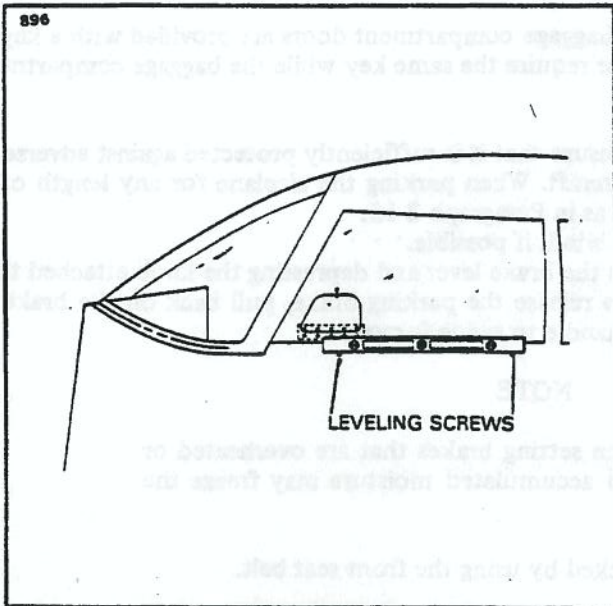

Figure 2-6. Leveling Longitudinally
- a. To longitudinally level the airplane, partially withdraw the two leveling screws located immediately below the left front side window. (Refer to Figure 2-6.) Place a level on these screw heads and